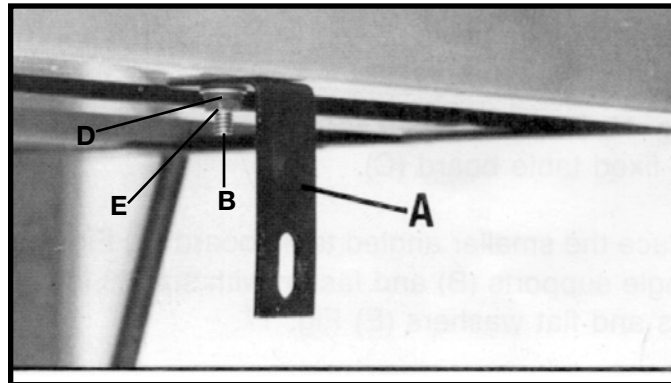

Fig. 12
1. Assemble bracket (A) to the bottom of the right side of saw base, (Fig. 12), using the 1/4-20x1/2" hex head screw (B), 1/4" lockwasher (D), and 1/4-20 nut (E).